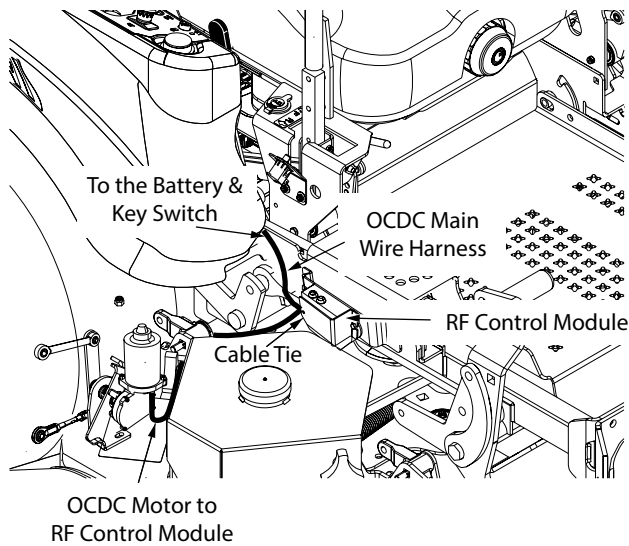

Figure 3-24. E-OCDC Wire Harness Installation
16. Install the EOCDK discharge chute to the cutter deck. Secure using two (2) 5/16-18 x 1 3/4" bolts and two (2) 2 5/16-18 elastic stop nuts. See Figure 3-24.
18. Secure the upper control link to the E-OCDC discharge chute using one (1) 5/16-18 x 1 11/2" bolt and one (1) 5/16-18 elastic stop nut. A spacer will be required to install the 61 and 72 inch discharge chutes. See Figure 3-24.